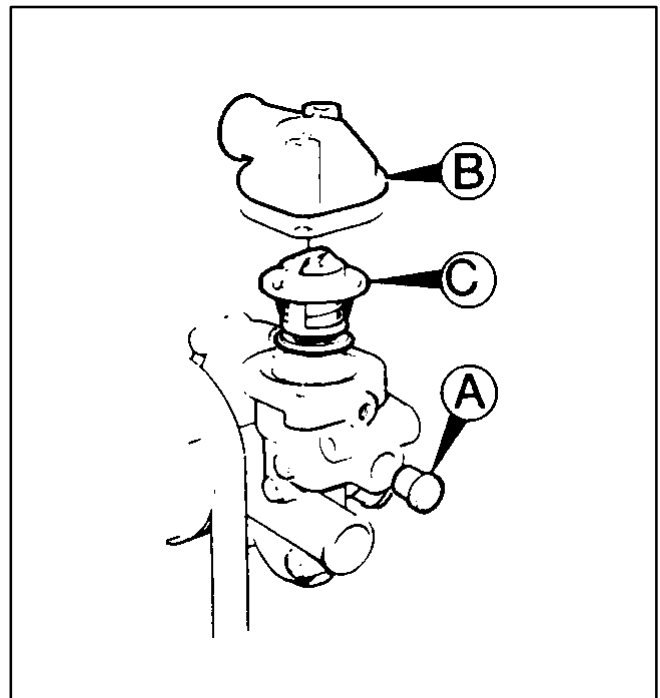

FIGURE 8-33. REMOVING THE THERMOSTAT
1. Remove the radiator pressure/fill cap, thermostat body drain plug (Figure 8-33, Item A) and radiator top hose.
2. Remove the two cover retaining bolts and lift off the cover (B) and thermostat (C).